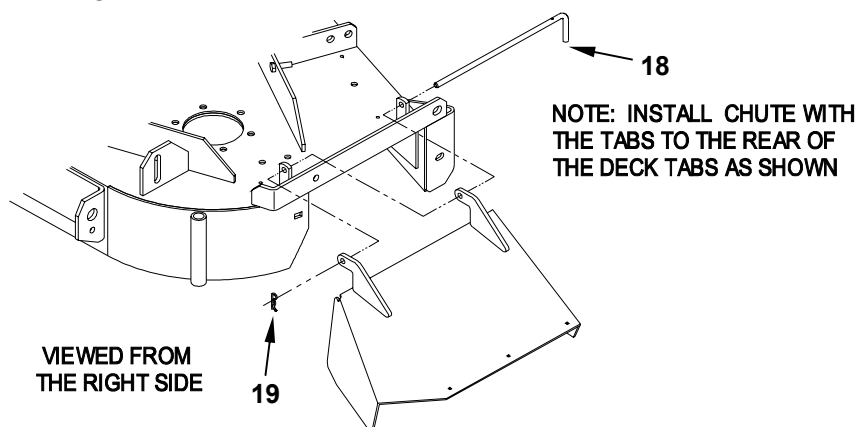

FIGURE 4
- 3.3.6 Install the discharge chute using the chute pivot pin (Item 18) and hairpin (Item 19) (See Figure 4).